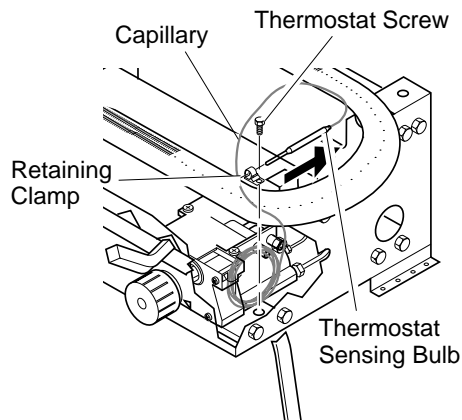

Figure 41 - Removing Thermostat Sensing Bulb
2. With 1/4" hex driver or socket, loosen the thermostat screw. Carefully slide the thermostat sensing bulb out of the retaining clamp (see Figure 41).